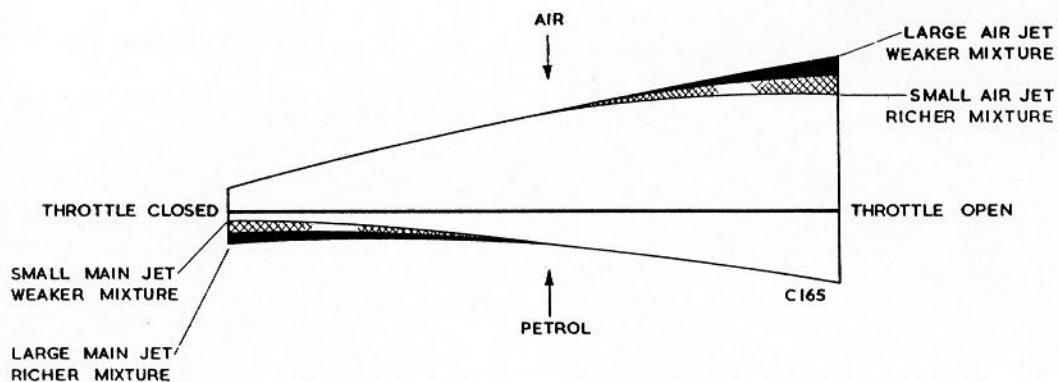

Fig. 15 Diagram of jet effect.
2. The remainder of the throttle range should be checked on the road, preferably on a gradient which is well known. The fitting of a larger size main jet may upset the performance at wider throttle openings or consumption may be too great. In this case, try a size larger air correction jet. Fig. 15 shows diagrammatically the sphere of influence of the main jet and air correction jet in relation to throttle position. It will be noted from the diagram that the petrol supply fed from below is represented by the total area below the heavy centre line, while the air supply fed from above is represented by the total area above the centre line. The shaded portions show respectively the influence of differing sizes of main jet and air correction jet. Thus a larger size main jet will increase the total area, i.e. the sum of the areas above and below the centre line, by adding to the petrol side (enrichment) at smaller throttle openings. At the wider throttle positions, the mixture is corrected on the air correction jet, and alters the total area on the air side of the diagram.